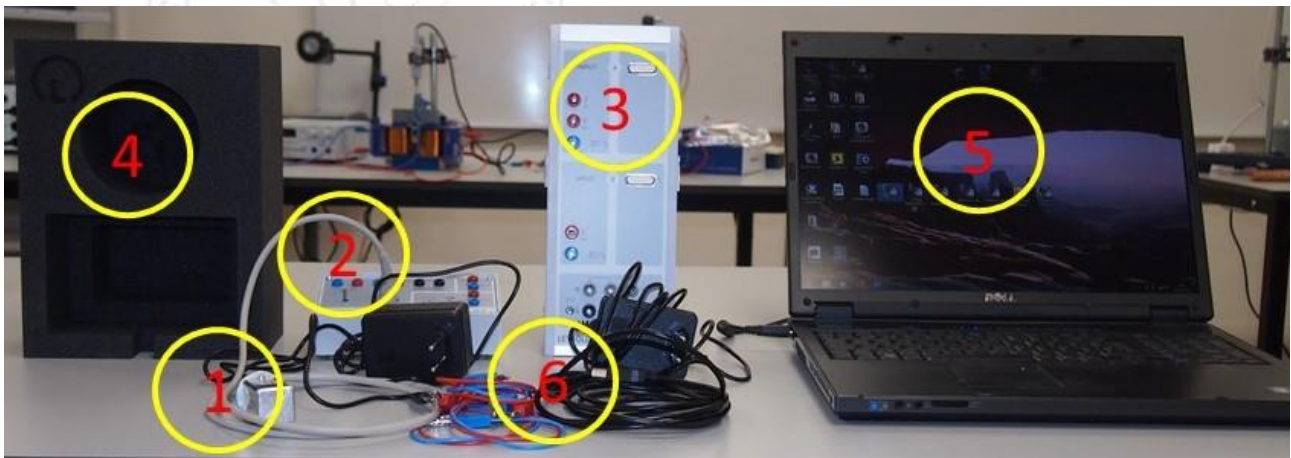

Figure 1. Equipment of the practice.
The integrated measuring module, (1) in Figure 1, contains the superconductor ( $\text{YBa}_2\text{Cu}_3\text{O}_7$ ) and a platinum thermal resistor to measure the temperature. A highly stable current of 140 mA is applied between the ends of the superconductor. During the experiment the voltage drop between the ends of the superconductor is measured. According to the Ohm's law, the